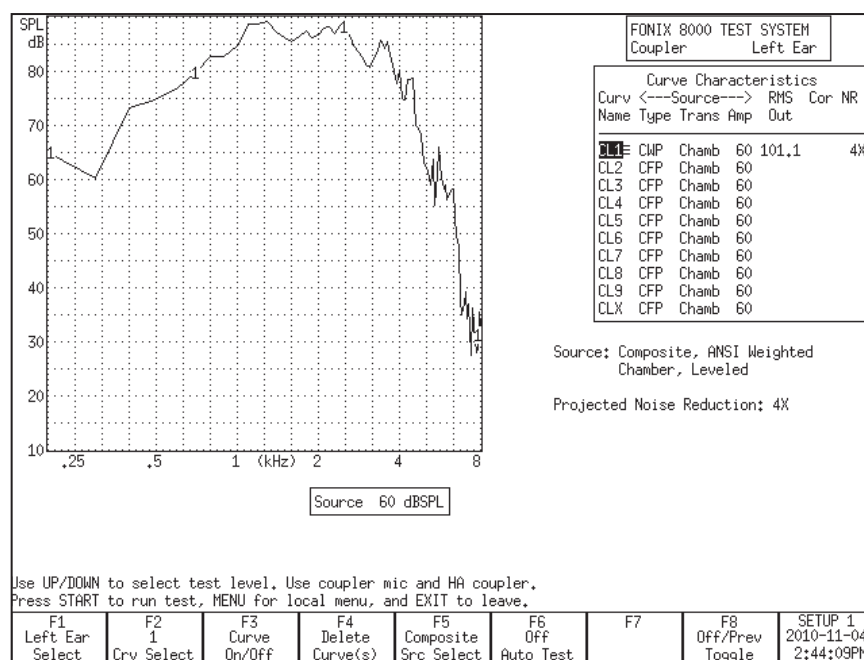

Figure 2.3.2.4 – Example of IM distortion
The complex signals are helpful for identifying intermodulation distortion (IM). IM distortion occurs when amplitudes at more than one frequency in a signal combine to create an amplitude at a frequency not present in the original signal. When viewing a graph run with a composite signal, look for points along the graph where the line “breaks up.” Such an appearance indicates the presence of IM distortion. See Figure 2.3.2.4 for an example of IM distortion. This type of distortion is only apparent when a composite signal source is used because pure-tone sweeps do not present more than one frequency at a time.
The ANSI filter, taken from the ANSI S3.42 standard, rolls off the high frequencies at a rate of 6 dB per octave, starting with a 3 dB drop at 900 Hz. The ICRA filter uses the ICRA speech spectrum developed by the International Collegium of Rehabilitative Audiology. The ICRA spectrum is based on the Long Term Average Speech Spectrum (LTASS) and rolls off the high frequencies more rapidly than the ANSI spectrum. Figure 2.3.2.5 shows a comparison of the spectra.